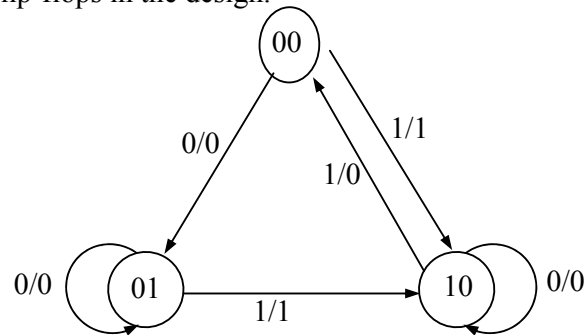

Fig. 1
- a) Design, construct and test a sequential circuit whose state is shown in Fig.1. Use JK flip-flops in the design.